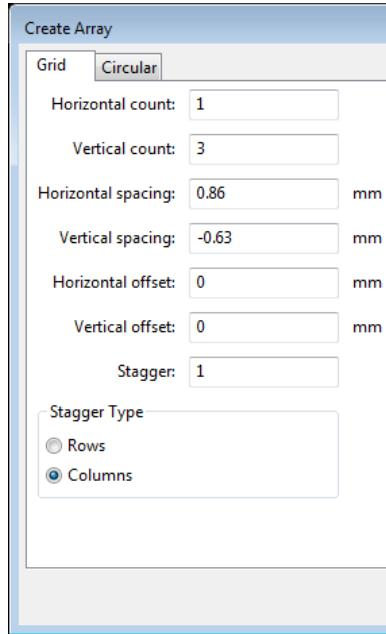

Figure 38: Array setting for pad type 1.
- a) Right click on the pad created above, select “Create Pad Array” (shortcut “ctrl+N”). Set up the “Create Array” dialog box according to Fig. 38. Leave the numbering settings to their default values.